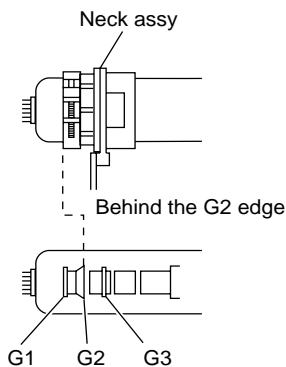

Fig. 3-1
2. Position neck assy as shown in Fig3-1.
(See Figures 3-1 through 3-3.)